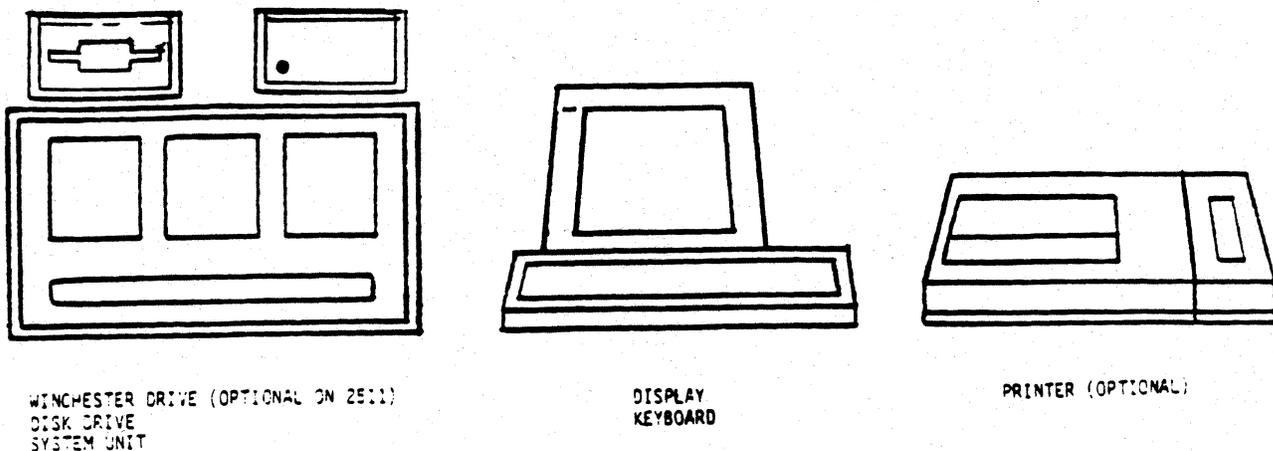

Figure 1-1. Typical System Configuration
The major physical components of the 2511/2514 systems, as shown in figure 1-1, are (1) a keyboard for operator input, (2) a raster scan CRT display unit for echo of operator inputs and printouts and data plots from analysis operations, (3) an optional thermal printer for making hard copies of the displays, (4) two mini-floppy disk drives for program and data storage, (5) the system mounting box, and (6) the Winchester disk drive.